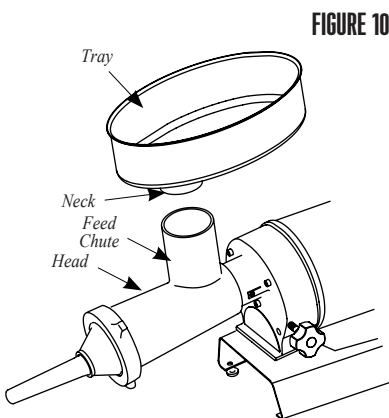

FIGURE 10
6. Insert the neck of the Tray into the Feed Chute (FIGURE 10).
7. NEVER operate Grinder without the Tray secured in place (FIGURE 10).